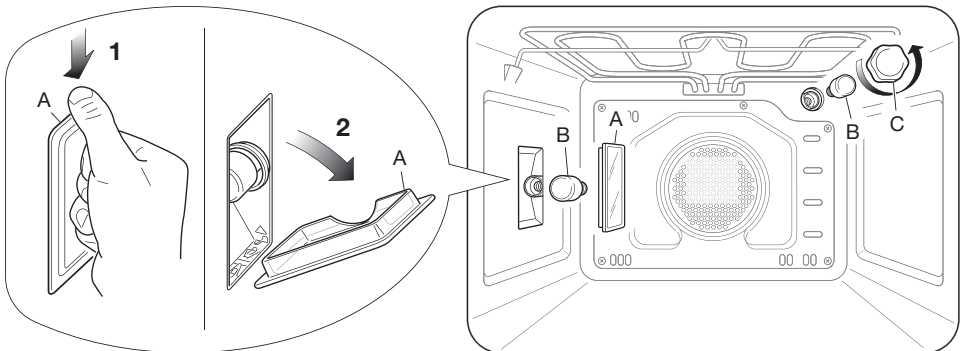

Fig.26 Removing the oven lamps
- Press down from the top the protective cover "A" (Fig. 26) and remove it by rotating on the lower side.
- Remove the protective cover "C" (Fig. 26).